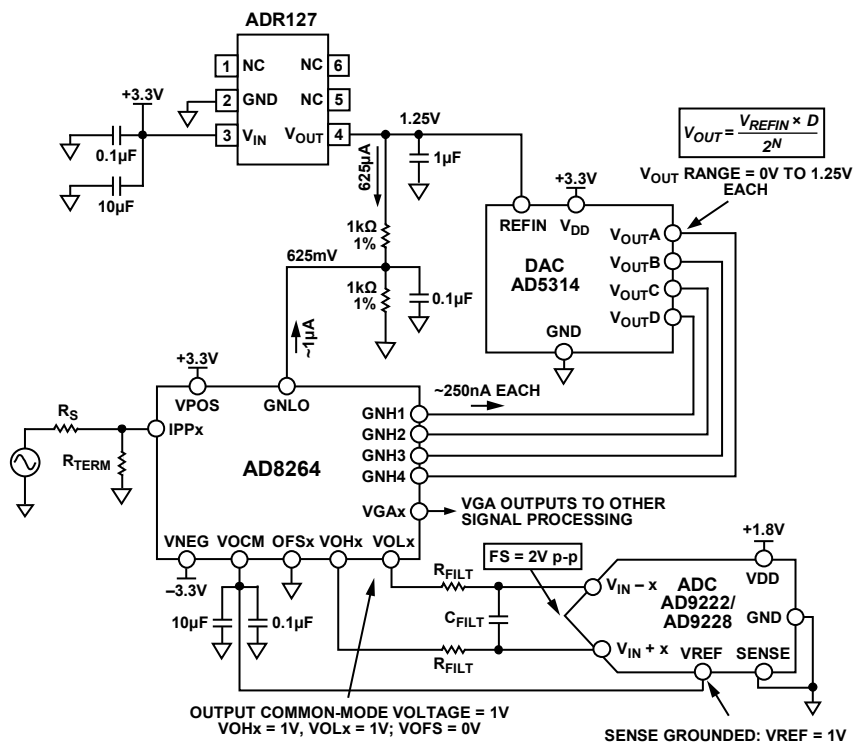
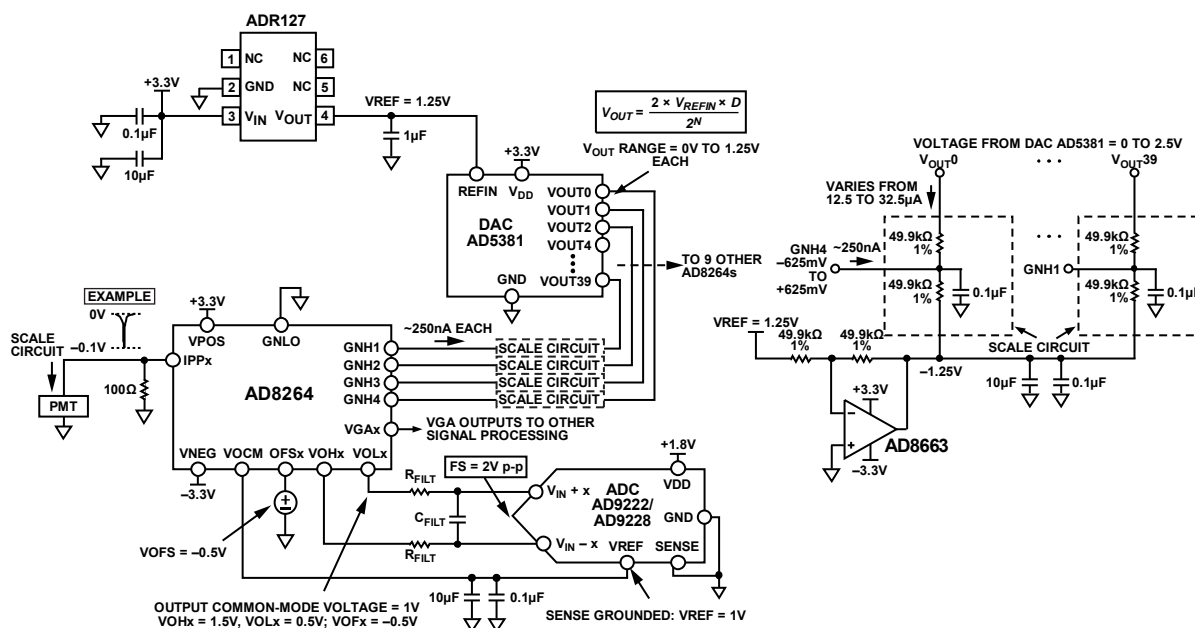

Figure 112. Application Concept of the AD8264 with the AD5314 10-Bit DAC and the AD9222/AD9228 12-Bit ADC
Figure 113. Concept Application of AD8264 with 40-Channel AD5381 12-Bit, 3 V DAC and AD9222/AD9228 12-Bit ADC
The AD8264 is particularly well suited for use in the analog front end of medical PET imaging systems. Figure 112 shows how the AD8264 may be used with the AD5314 (a 4-channel, 10-bit DAC) and the AD9222/AD9228 (an octal or quad, 12-bit ADC, respectively). The DAC sets the gain of the AD8264. Note that the full gain span of 24 dB is achieved with this setup because the gain control input range of the AD8264 is very close to 1.25 V. The GNLO pin must offset by $1.25/2 = 625$ mV because the gain control input is bipolar around the voltage applied at GNLO. This is done with two 1 k Ω , 1% resistors. The approximately 1 μ A of bias current flowing from the GNLO pin does not contribute a significant error because the basic gain error of the AD8264 is the limiting factor.
Figure 112 also includes the DAC output equation, which indicates that the output can vary between 0 V and $V_{\text{REF}} = 1.25$ V.
The single-ended-to-differential amplifier of the AD8264 amplifies the VGA output signal by 6 dB and can provide the required dc bias of the AD9222/AD9228, as shown in Figure 112. The ADC is connected with the default internal reference because the SENSE pin is grounded. With this connection, the AD9222/AD9228 V_{REF} pin is an output that provides 1 V; this is then connected to the V_{OCM} input of the AD8264, which sets the output common-mode voltage of the V_{OHx} and V_{OLx} pins to 1 V. This voltage is very close to the recommended optimal value of $V_{\text{DD}}/2 = 0.9$ V. With this configuration, the ADC inputs are set to a full-scale (FS) of 2 V p-p.
The dc connected concept example in Figure 113 is an application with the 40-channel AD5381, 3 V, 12-bit DAC. The main difference between this example and Figure 112 is that, for the same AD927 1.25 V reference, the full-scale output of the DAC is from 0 V to $2 \times V_{REFIN} = 2.5$ V. Two options for gain control include the following:
- Use the same circuit as in Figure 112 but use only half the DAC output voltage from 0 V to 1.25 V. This is the simplest solution, requiring the fewest extra components. Note that the overall gain resolution increases by one bit to 11 bits over the 10-bit AD5314.
- Ground GNLO and scale the DAC output so that the GNHx inputs vary from -0.652 V to $+0.625$ V. Figure 113 shows a possible circuit implementation using a divider between the DAC output and a -1.25 V reference.
Figure 113 shows how the AD8264 is connected in a PET application. The PMT generates a negative-going current pulse that results in a voltage pulse at the preamplifier input and a differential output pulse on VOLx and VOHx.
A convenient method of verifying and customizing the signal chains shown in Figure 112 or Figure 113 is by ordering the corresponding evaluation boards available on www.analog.com. The AD8264-EVALZ is a platform through which the user can quickly become familiar with the features and performance capabilities of the AD8264. See the Evaluation Board section for more information.